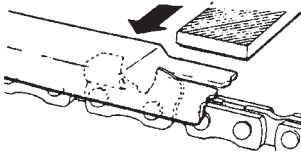

Fig. 40
- 3) Place depth gauge tool on cutter. If depth gauge projects, file it level with the top of the tool. Always file from the inside of the chain toward an outside cutter. (Fig. 40)